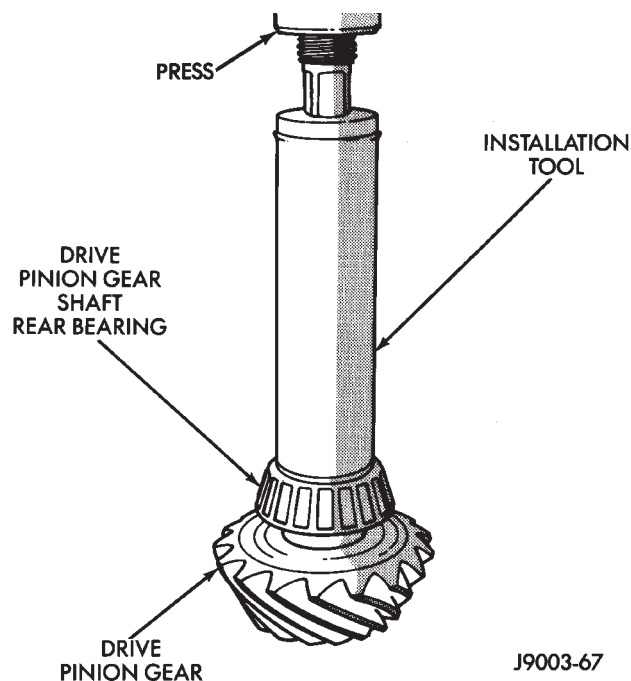

Fig. 35 Shaft Rear Bearing Installation
(8) Install the rear bearing and slinger, if equipped, on the pinion gear (Fig. 35) with: